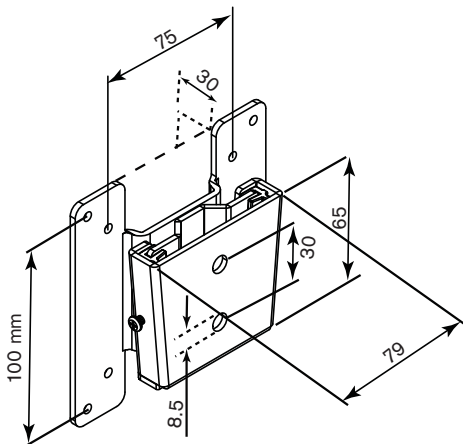

Figure 3.1 UMM-LW-20B Dimensional Drawing
1	VESA mounting plate (A) and wall bracket (B) (see Figure 3.1 on page 16 for a dimensional drawing)